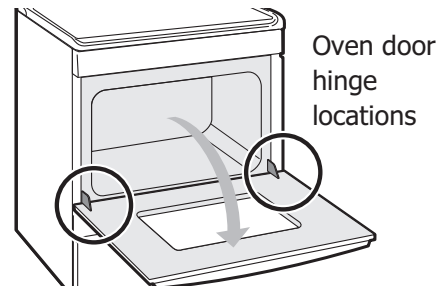

Figure 20: Door hinge location
1. Open oven door completely, horizontal with floor (See Figure 20).
3. Fully open the oven door, horizontal with floor (See Figure 20).